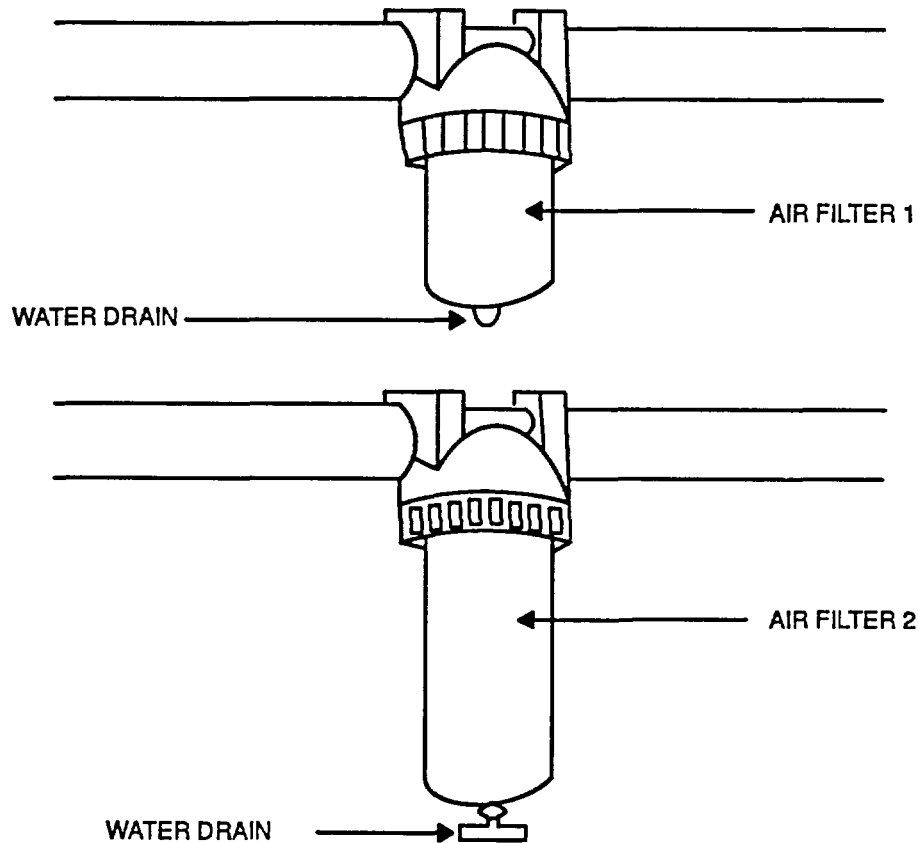

Figure 12-7. Exterior View of Air Filter 1 and Air Filter 2
- d. Drain air filters 1 and 2 by opening drain valves on bottom of filters (Figure 12-7). When water and moisture have drained, close drain valves.
- d. Drain air filters 1 and 2 by opening drain valves on bottom of filters (Figure 12-7). When all moisture has drained, close valves.
- e. Open drain valves on bottom of air filters 1 and 2 (Figure 12-7).